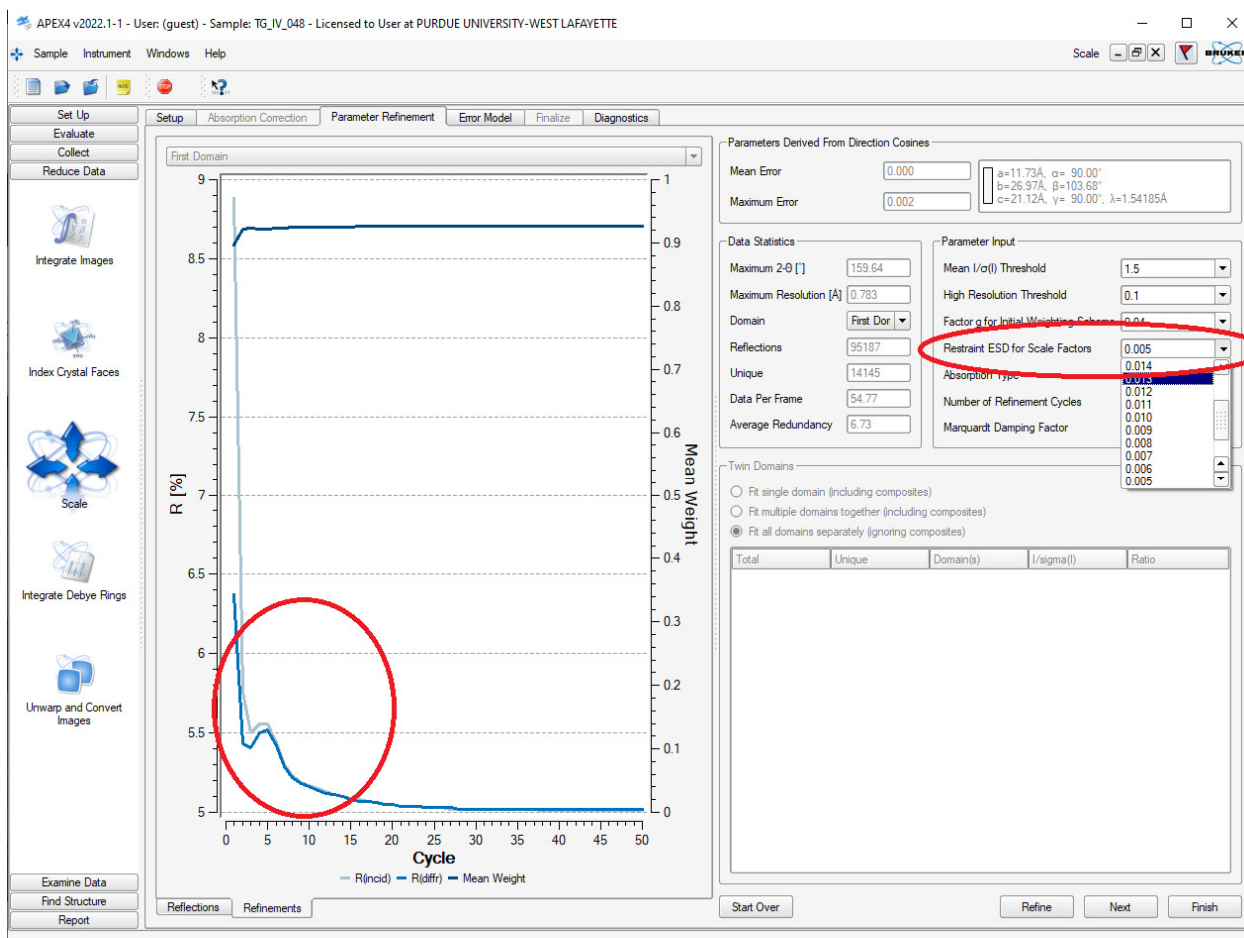

Figure 27, Absorption Correction window (second Scale Window) after refinement. Need for changing Restraint ESD for Scale Factors is apparent
- Click <Refine>, wait for the refinement to finish and inspect the results. The parameter refinement curve should show a smooth and steady decline (as in Fig. 27) and the final R value should be reasonably low. Large up and down fluctuations in R[%] combined with higher than expected R values could be a sign that scaling and absorption correction effects are highly correlated. This can especially be a problem for heavily absorbing crystals that are also aspherically shaped when a small beam size (microsource) is used. If the refinement results appear less than ideal, select a higher value for <Restraint ESD for Scale Factors> and repeat the parameter refinement (click <Refine> once more). Default is 0.005, the maximum allowed value is 0.02. Check if the refined data are indeed improved via a Shelxl refinement, otherwise use the defaults!